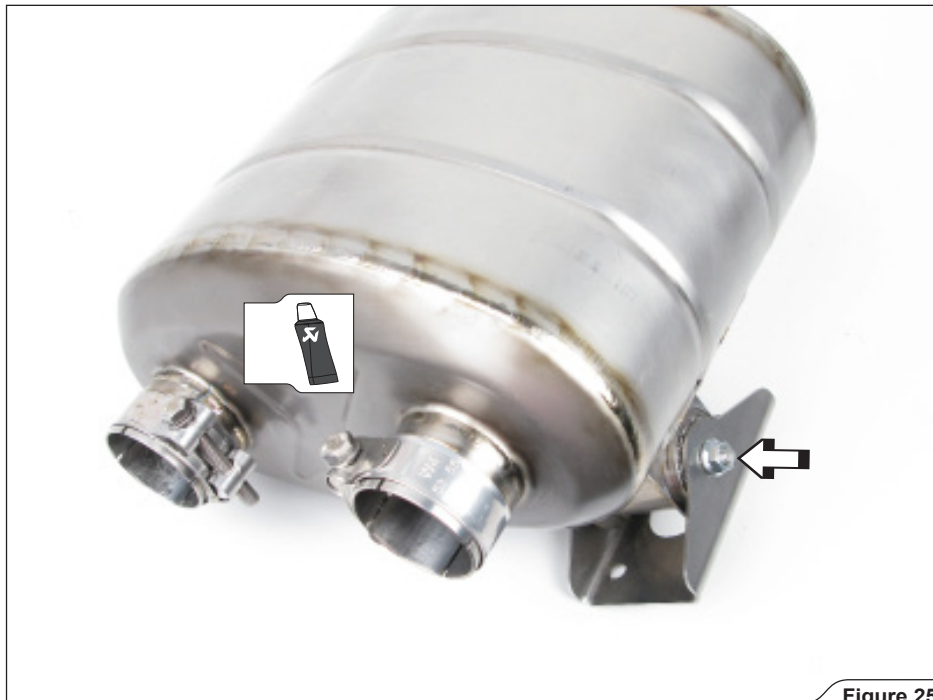

Figure 25
7. **For Evolution:** coat the bolts and interior of metal clamps with anti-seize copper paste (black tube) and correctly install the metal clamps onto the side-muffler (**Figure 25**). Perform the process on both side-mufflers.